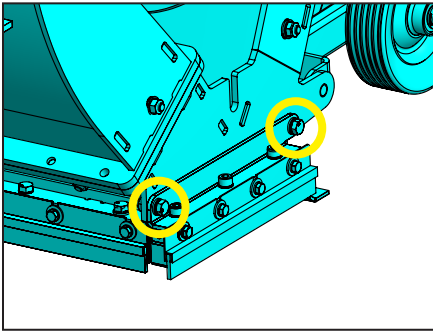

FIG. 26A
EDGE BLASTING (FIGURES 26A-26C)
1. Remove the brush and magnet assembly from the right side of the machine (Figure 26A).